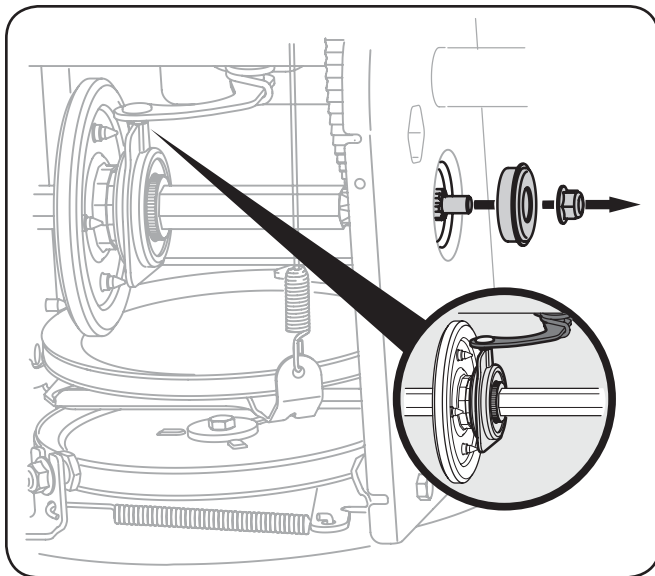

Fig. 7-9
5. Carefully remove the hex nut which secures the hex shaft to the snow thrower frame and lightly tap the shaft's end to dislodge the ball bearing from the right side of the frame. See Fig. 7-9.
**NOTE:** Make sure the shift lever pin is in place in the bearing housing. See Fig. 7-9 inset.